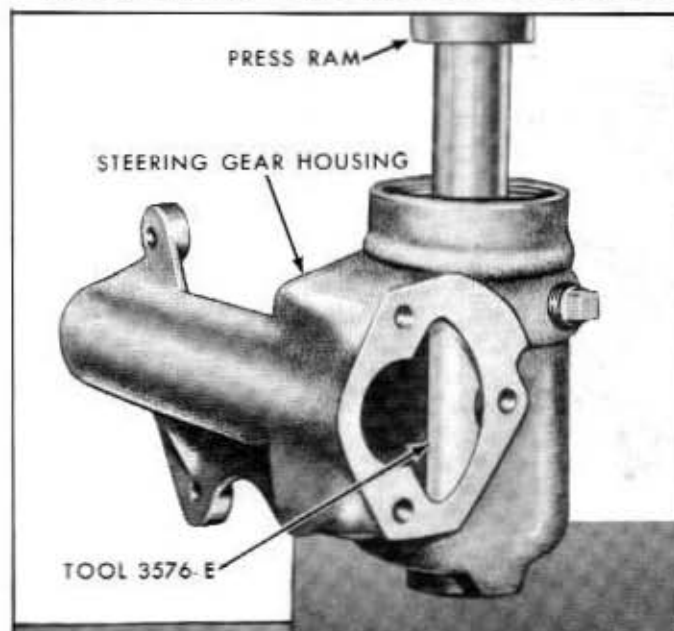

Fig. 5-12—Steering Shaft Lower Bearing Cup Installation—(60C-1209)
2. If the steering shaft upper and/or lower bearing cup has been removed, press a new bearing cup into the housing with Tool 3576-E. See figure 5-12.